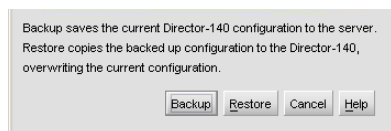

Figure 67: Backup and Restore Configuration dialog box
- c. Choose **Maintenance > Backup & Restore Configuration**. The Backup and Restore Configuration dialog box displays, as shown in Figure 67.
3. Choose **Maintenance > Backup & Restore Configuration**. The Backup and Restore Configuration dialog box displays, as shown in Figure 67.